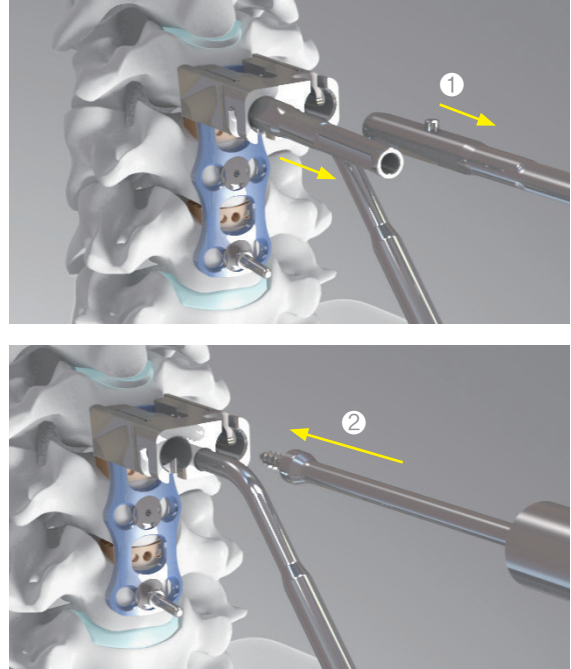

Fig. 10
Once contact is obtained, rotate the tap counterclockwise until it is free of the bone ② (Fig.10).